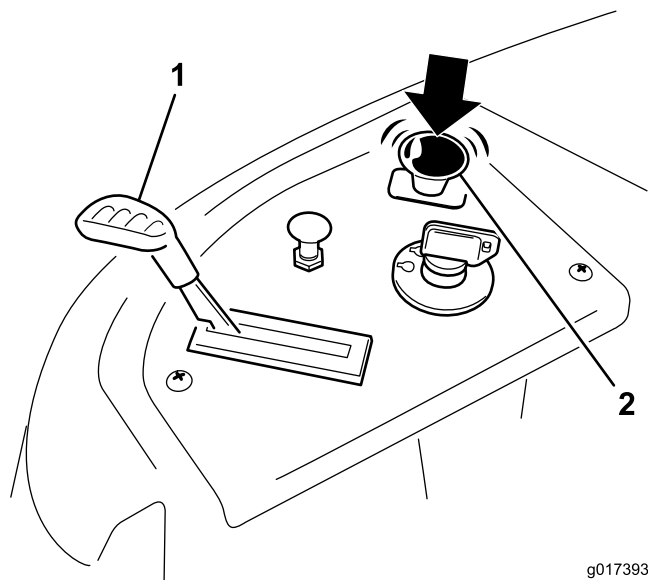

Figure 12
2. Move the throttle control to fast (Figure 12).
3. Disengage the blades by moving the blade control switch to Off (Figure 12)